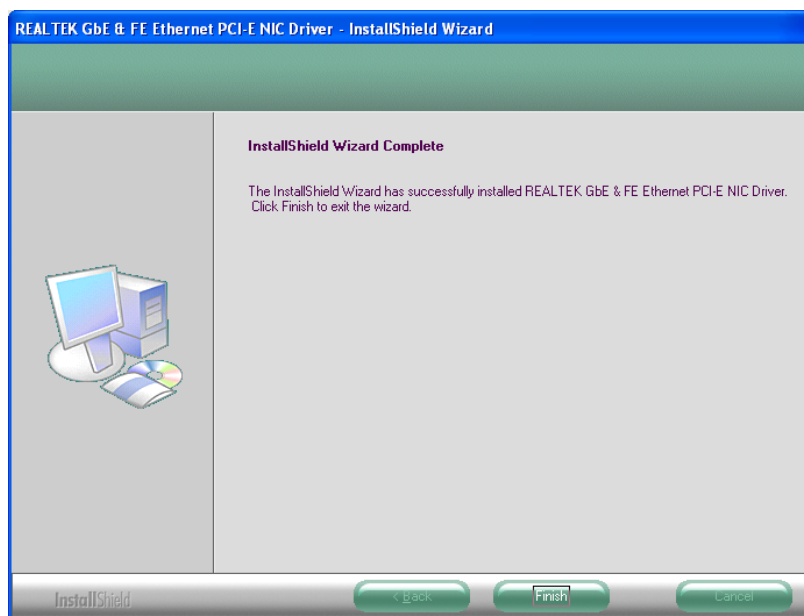

Figure 6-20: LAN Driver Installation Complete
Step 9: When the driver installation is complete, the screen in **Figure 6-20** appears.